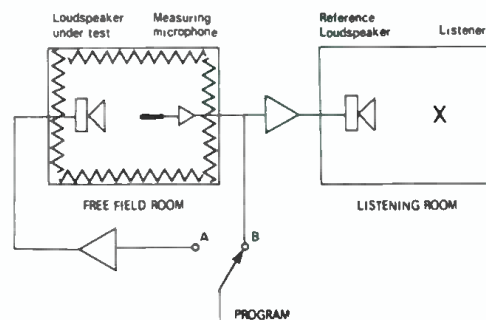

Figure 7A. A combination of objective and subjective techniques which were developed by KEF for digital simulation of an 'imaginary' loudspeaker systems.
A coming-together of objective and subjective techniques has also been pioneered at KEF in the digital simulation of 'imaginary' loudspeaker systems. Look first at the test set-up of FIGURE 7A. The speaker under test is placed in the room used for objective measurements and its output relayed, via the measuring microphone and a reference loudspeaker, to a listener in a typical listening room. The source material can be switched directly to the reference loudspeaker (FIGURE 7B) or via the test loudspeaker/microphone chain (A). If the signal levels are kept the same, there will be no audible differences for a subjectively 'perfect' loudspeaker. When differences can be heard, the test loudspeaker and microphone chain is replaced by a digitally-realized system having the same measured impulse response. The test loudspeaker output can be simulated digitally by processing the signal material using a computer (and stored impulse response of the loudspeaker). It is then possible to compare the quality of the straight program and the simulated loudspeaker—and simulate any proposed modifications to the design without having to make any physical changes or new prototypes.